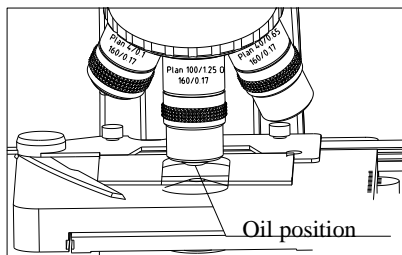

Fig.11
- (1) Use the objective 40X to focus the specimen.
- (2) Put a drop of oil on the specimen. (See fig.11)
- (3) Rotate the nosepiece to place the 100X objective (oil) into the light path. Then use the fine focusing knob to focus.